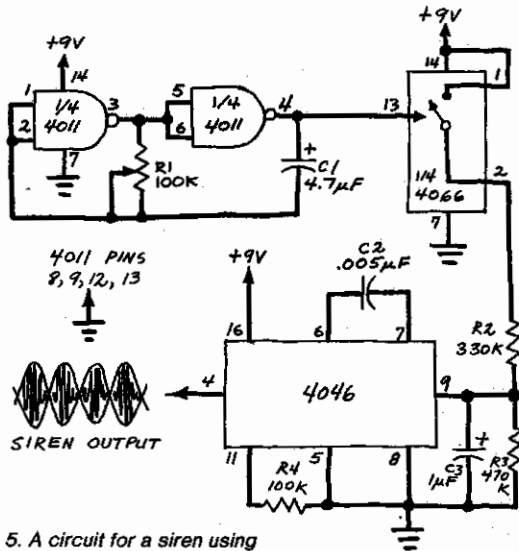

Fig. 5. A circuit for a siren using a 4066 analog switch to vary the sound.
**Siren.** The operation of the siren shown schematically in Fig. 5 is controlled by a 4066 analog switch. When the super-low-frequency NAND gate oscillator closes the switch, capacitor  $C3$  charges to  $V_{DD}$  through  $R2$ . When the analog switch is opened,  $C3$  discharges through  $R3$ . Because the voltage across  $C3$  controls the vco frequency, the result is an up-down siren effect.